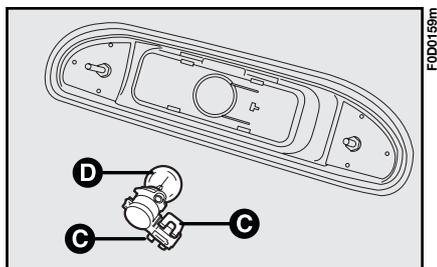

fig. 26
- 3) press the two retaining clips **C**-fig. 26 and remove the bulb holder;